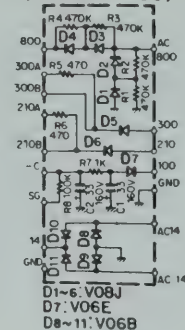

Figure 23 RECTIFIER Board
5.12 RECTIFIER BOARD (X43-1090-00) (See Figure 23)